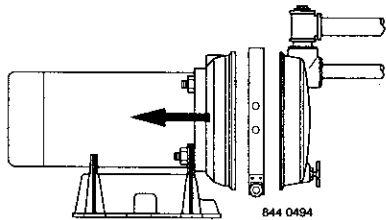

Figure 12 – Slide Motor Back
Pump and piping need not be disconnected to repair or replace motor or seal (see Figure 12). If motor is replaced, replace the shaft seal (Key No. 6, Page 11). Keep one on hand for future use.
2. Remove clamp (see Figure 12).
3. Remove pump base mounting bolts. Motor assembly and back half of pump can now be pulled away from pump front half (Figure 12). CAREFULLY remove O-Ring.